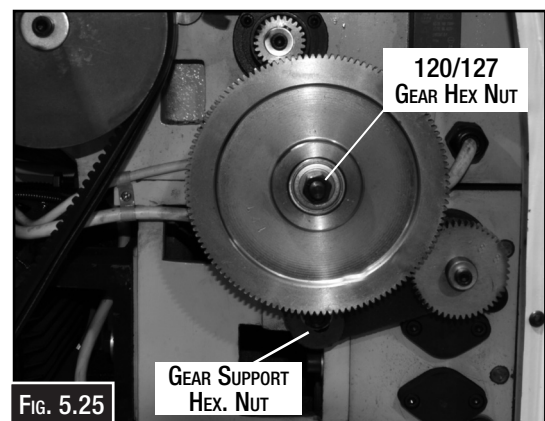

FIG. 5.25
4. While holding the 120T/127T gears, loosen the arm by undoing the gear support hex nut and slowly let the gears pivot down and away from the upper top gear, as illustrated (Fig. 5.25)
5. Loosen the 120T/127T gear hex nut and slide the middle gear away from the bottom gear. The 120T/127T gears may need to be reversed. Undo the 120T/127T gear hex nut (Fig. 5.25) and reverse the gears.